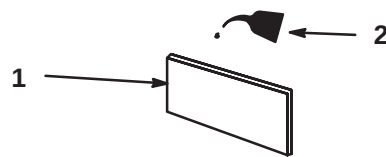

Figure 38
3. Soak element in new engine oil. (Fig. 38). Squeeze the element to remove excess oil.